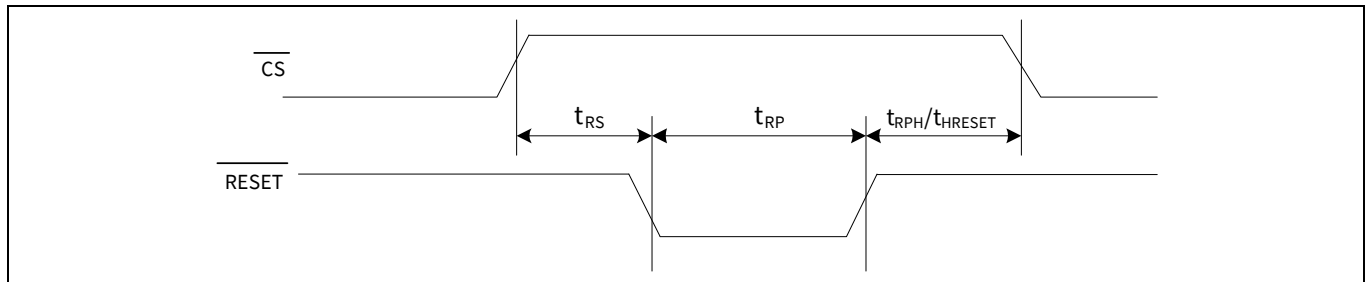
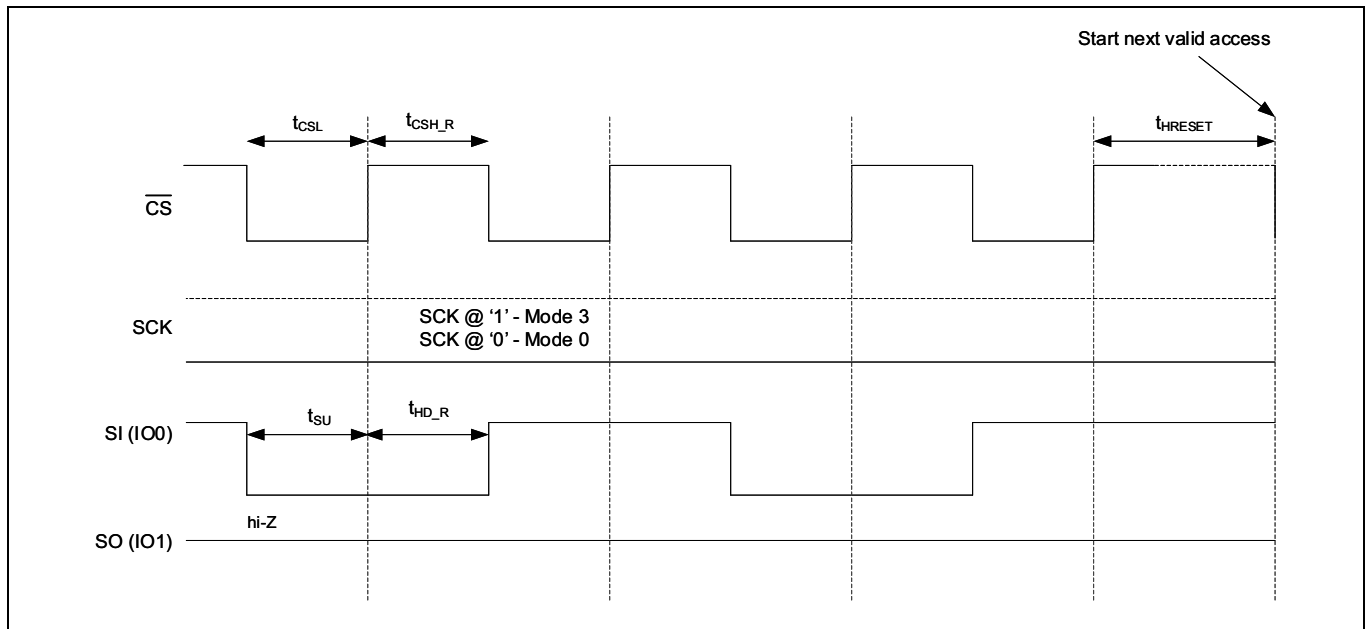

Figure 110 $\overline{\text{RESET}}$ timing - SPI with QUAD set (CR1[1]='1') or QPI enabled (CR2[6] = '1')
Figure 112 JEDEC SPI reset
The hardware reset input ($\overline{\text{RESET}}$) is multiplexed on ($\overline{\text{RESET}} / \text{I/O3}$) and is an active LOW signal in CY15x104QSN device. Refer to **Table 21** for hardware reset ($\overline{\text{RESET}}$) pin configurations across various SPI interfaces. When $\overline{\text{RESET}}$ is pulled LOW, CY15x104QSN self initializes and brings its configuration back to the power up status. Refer to **Table 59** for different registers configuration after $\overline{\text{RESET}}$ cycle. Once $\overline{\text{RESET}}$ is issued, CY15x104QSN takes $t_{\text{RPH}}/t_{\text{HRESET}}$ time from $\overline{\text{RESET}}$ rising edge to complete the reset cycle. CY15x104QSN becomes inaccessible during t_{RPH} time. **Figure 110** to **Figure 112** show the $\overline{\text{RESET}}$ timings in different reset mode.
- The $\overline{\text{RESET}}$ pin is multiplexed on I/O3 in the QPI mode. When using the hardware ($\overline{\text{RESET}}$) in QPI mode, the CR2 [5] bit must be set to '1' to enable to use I/O3 as $\overline{\text{RESET}}$ input when CS is HIGH. **Figure 110** shows the $\overline{\text{RESET}} / \text{I/O3}$ timing in QPI mode
Refer to **Figure 112** for timing details.